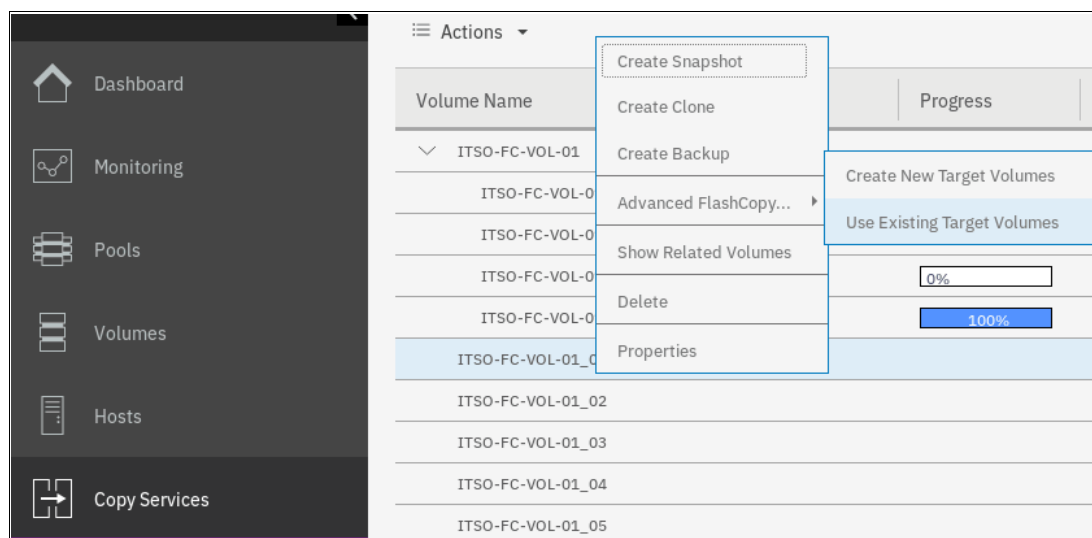

Figure 10-22 Creating a FlashCopy mapping with an existing target
1. Right-click the volume that you want to create a FlashCopy mapping for, and select **Advanced FlashCopy** → **Use Existing Target Volumes**, as shown in Figure 10-22.